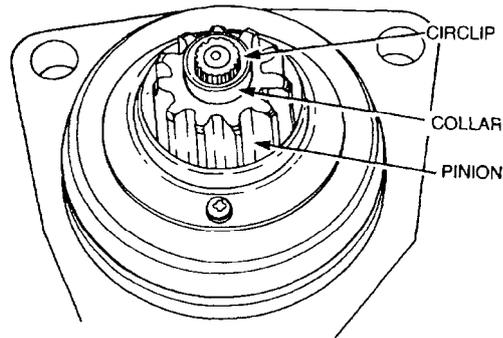

Figure 279 Removing the Pinion Gear
- n. Apply pressure on the pinion retaining collar. Remove the circlip and remove the collar, pinion and spring (Figure 279).